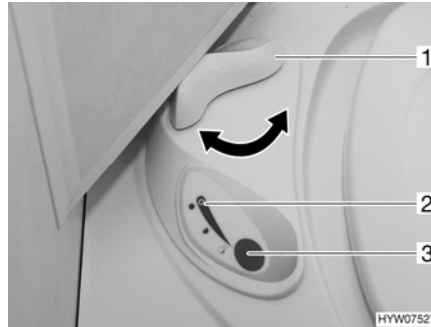

Fig. 209 Thetford toilet operating unit
- Before flushing open the sliding trap of the Thetford toilet. To do this, turn the slide lever (Fig. 209,1) in an anticlockwise direction.
- For flushing, press the blue flush button (Fig. 209,3).
- After flushing close the sliding trap. To do this turn the slide lever (Fig. 209,1) in a clockwise direction.
The indicator lamp (Fig. 209,2) lights up whenever the Thetford cassette has to be emptied.